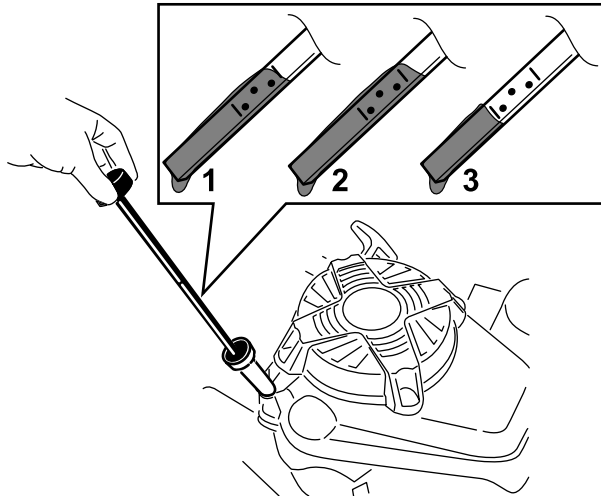

Figure 13
2. Remove the dipstick by rotating the cap counterclockwise and pulling it out (Figure 13).
5. Read the oil level on the dipstick (Figure 13).
- If the oil level on the dipstick is too low (Figure 13), carefully pour a small amount of SAE 30 or SAE 10W-30 detergent oil into the oil-fill tube, wait 3 minutes, and repeat steps 3 through 5 until the oil on the dipstick is at the correct level. For the oil type, refer to Changing the Engine Oil (page 18).
- If the oil level on the dipstick is too high (Figure 13), drain the excess oil until the oil on the dipstick is at the correct level; refer to Changing the Engine Oil (page 18).